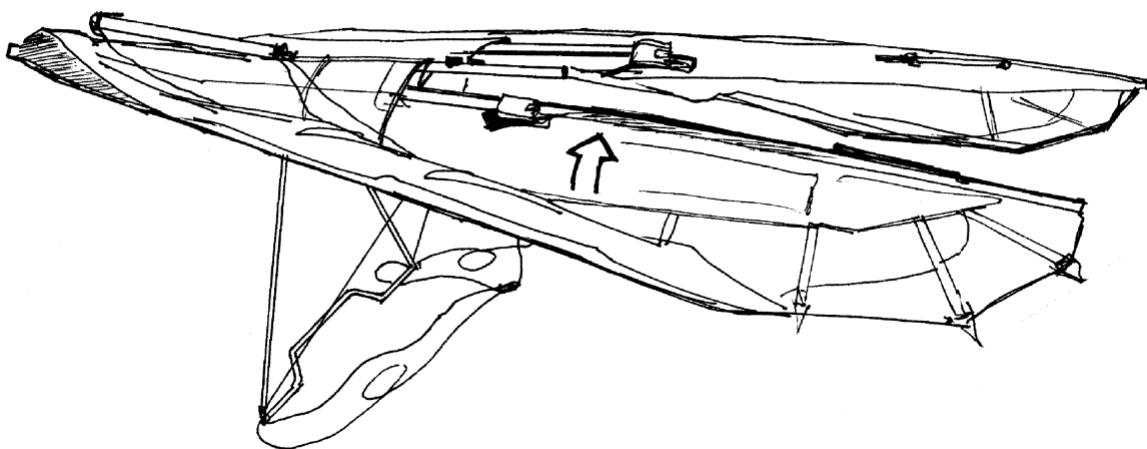
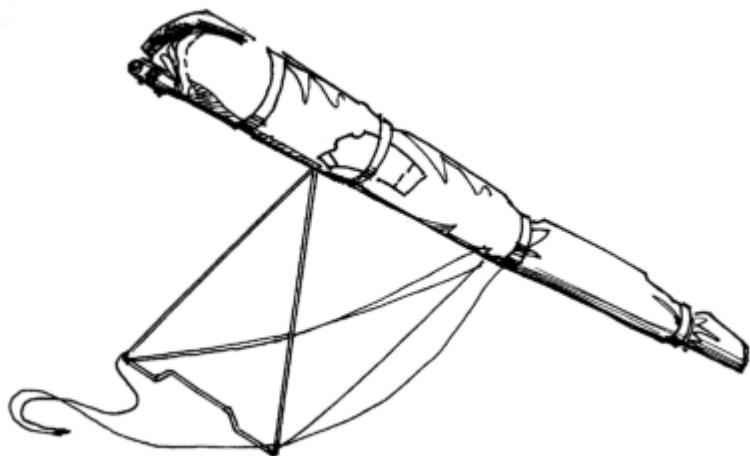

Fig. 44
Fig. 45
4.1.7. Fold the wings. Spread the sail so that both the top and bottom surfaces of the sail are equally taut, roll the sail and place it along the leading edge (Fig. 44). Place the bags with the battens between the leading edges of the sail at the glider nose. Fix the sail with the tighten tapes. Put the nose cone under the tighten tape nearest to the nose (Fig. 45).